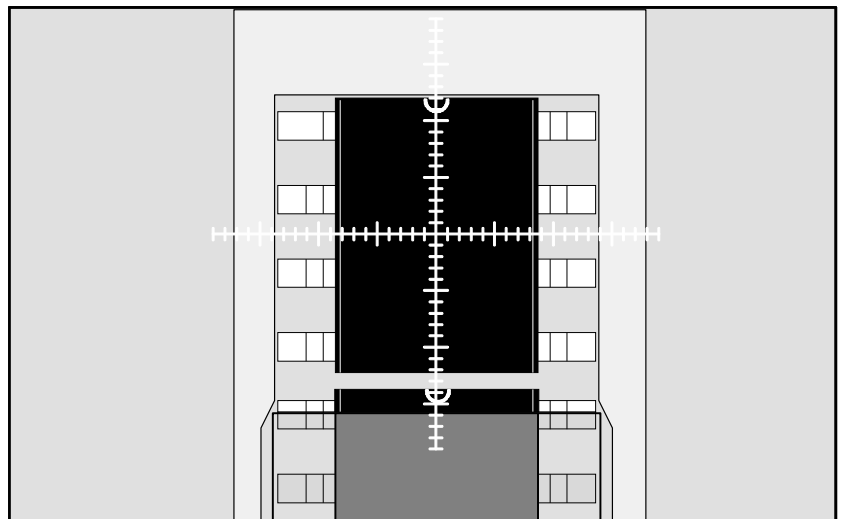

Figure 6-5. Locating the pick position.
3. Center the cross hairs on the component in the pick position, see Figure 6-5. If the first component is not fed to the pick position, feed it by pressing <F4> (*Step feeder*).